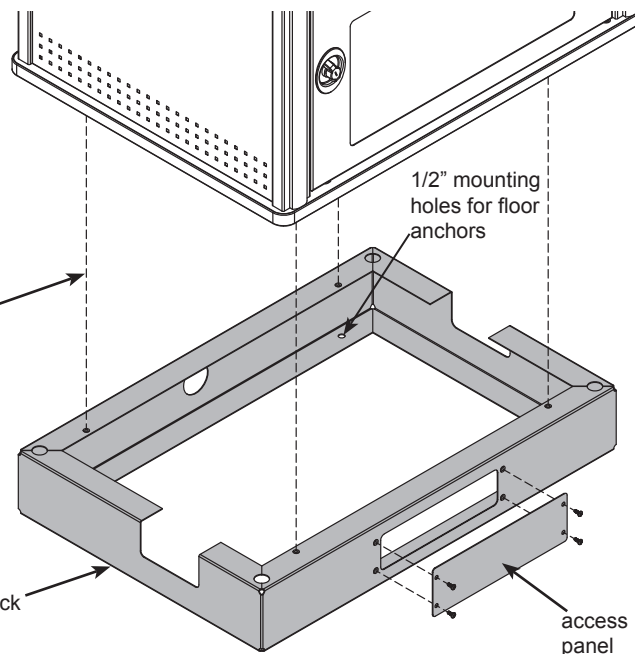

Figure 6
1. If your Media Manager is equipped with a toe kick, and you wish to attach it to the floor, the toe-kick will need to be detached from the lectern. To detach, remove the (4) 1/4-20 x 35mm JC bolts (one on each corner) from inside the lectern. **Figure 6**. (Save these fasteners).
3. Determine and locate the toe kick into its final position on the floor and mark the (4) mounting hole locations on the floor. (The toe kick mounting holes are 1/2" dia.)
5. Carefully lift the lectern back onto the toe kick and align the (4) mounting holes.